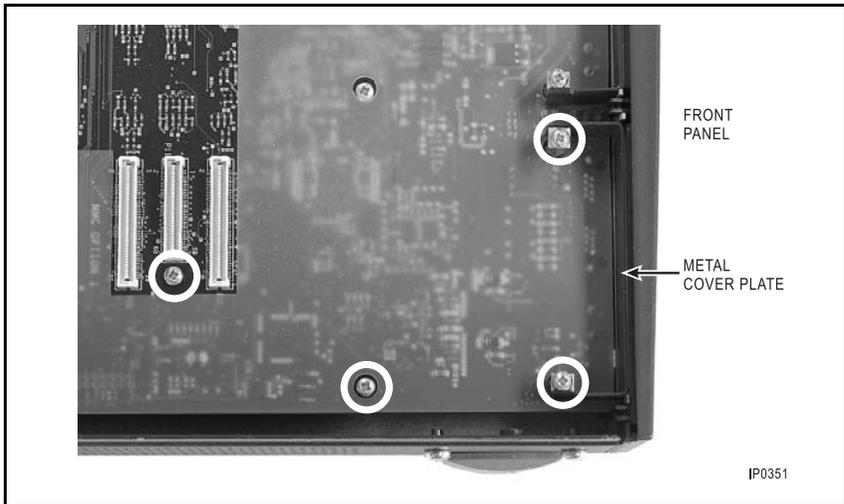

Figure 15: Removing the screws
5. Remove the four screws from the standoffs. The locations of the screws are shown in Figure 15.